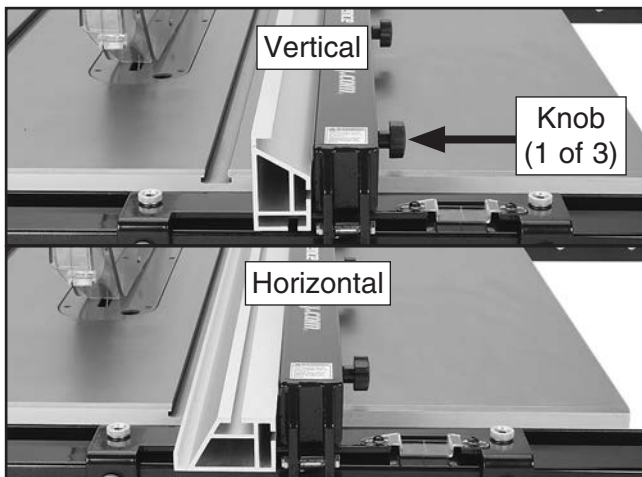

Figure 55. Rip fence positions.
5. Loosen fence knobs (see **Figure 55**), remove rip fence, then re-install in vertical position for thicker workpieces, or in horizontal position for thinner workpieces and angled cuts where blade is tilted over fence. Lift fence up and tighten each fence knob.